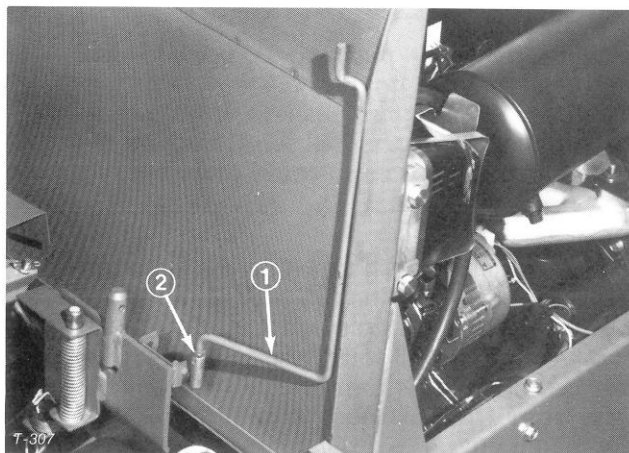

Figure 9
6. Install seat support rod to seat support bracket with jam nut (Fig. 9).
4. Install seat support rod to seat support bracket with jam nut (Fig. 9).